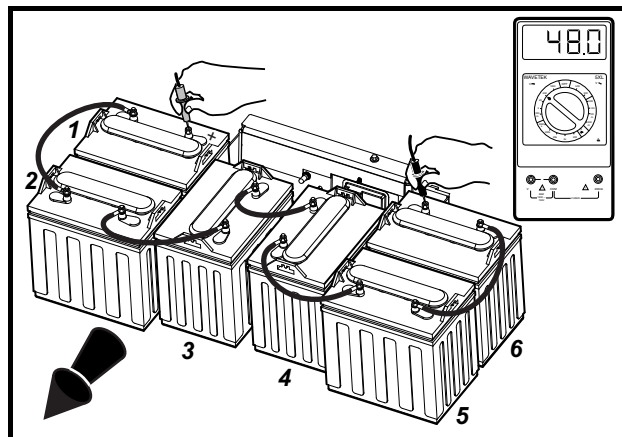

Figure 6-16 Battery Voltage Test – Precedent Style C Battery Configuration
- 4.4. **Style C 6 x 8-Volt Precedent only:** With a multimeter set to 200 volts DC, measure the voltage of the battery pack between the positive (+) post of battery no. 1 and the negative (-) post of battery no. 6 (**Figure 6-16, Page 6-18**).